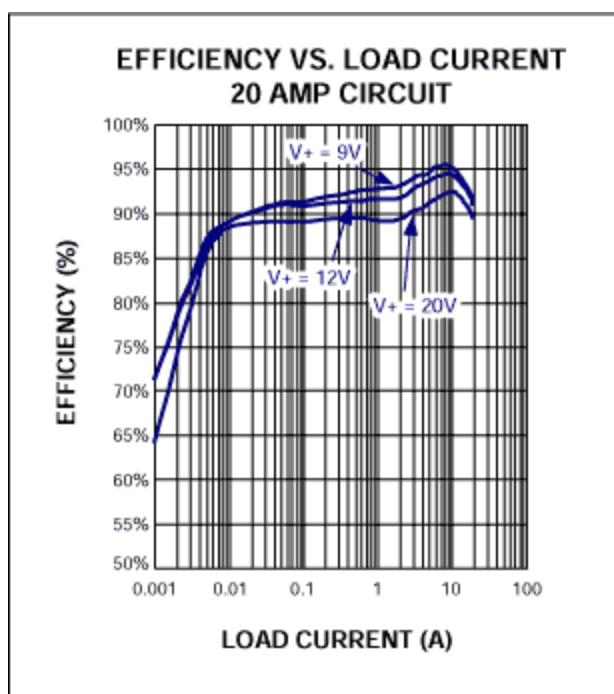

Figure 3. Efficiency vs. load current.
**Figure 3** shows an efficiency plot versus output current for a few different input voltages. High efficiency is maintained over the very high current range. The flexibility of the MAX1653 makes it possible to achieve many power levels by simply modifying the PCB layout and selecting components suited for the desired power level.